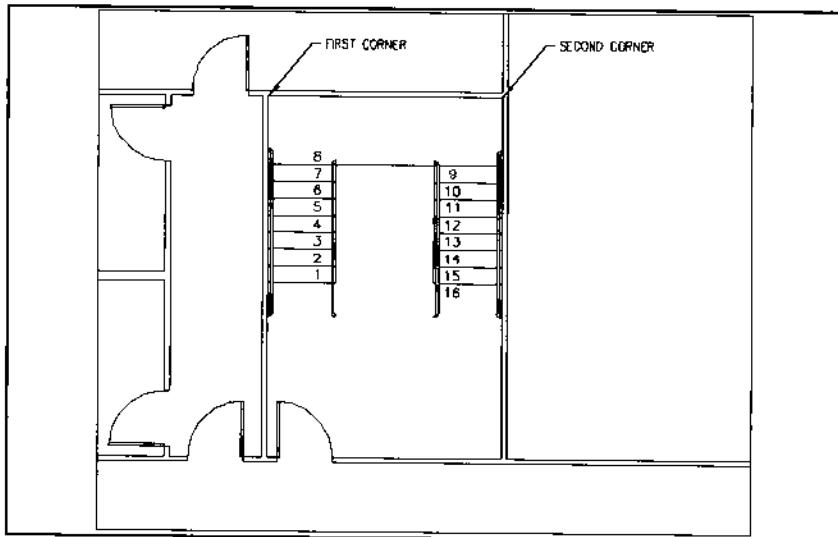

Figure 66.
6. Draw a 2D stair, as shown in Figure 66. The start point of the mid-landing is at the left top corner of the STAIR space. Proceed across to the opposite corner of the space, then select a point toward the door when prompted for the direction of the bottom of the stairs.
- > Pick second corner of the mid-landing: **INT of [top right corner of STAIR space, as in Figure 66]**